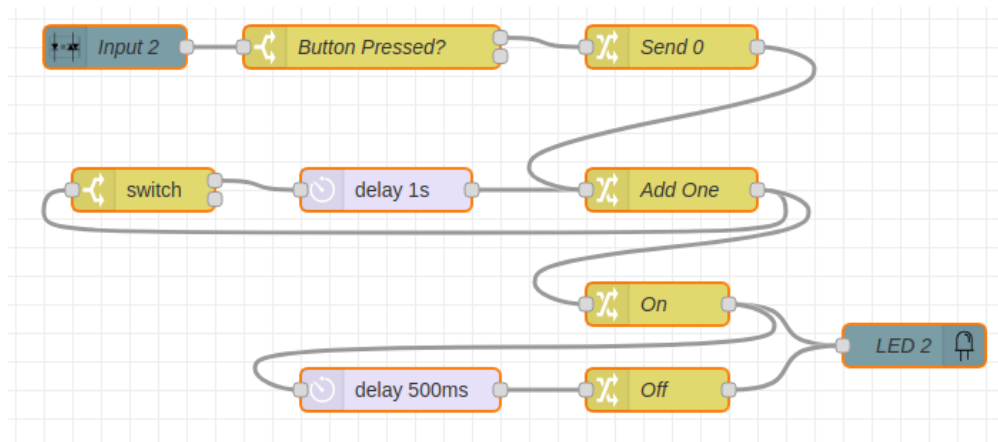

Figure 5-79: Completed Flashing LED Flow
When testing your flow remember that the LED might be on initially, in which case you will only see nine flashes instead of 10. If this offends your sensibilities (and maybe it should because it is a bit of a hole in the specification) then you might consider these extensions to the flow of Figure 5-79.
**OPTO Puzzle # 5 - Only One at a Time Please!** – Devise a flow to go between the IN2 button and the remainder of the flow in Figure 5-79 that prevents additional button pushes from initiating the flow until the flow completes flashing LED 2. You will probably need to use a context data variable to block any button push messages that occur before the flow ends. You can set the variable when the button is pressed and reset it with a message from the Switch node output that is not connected.